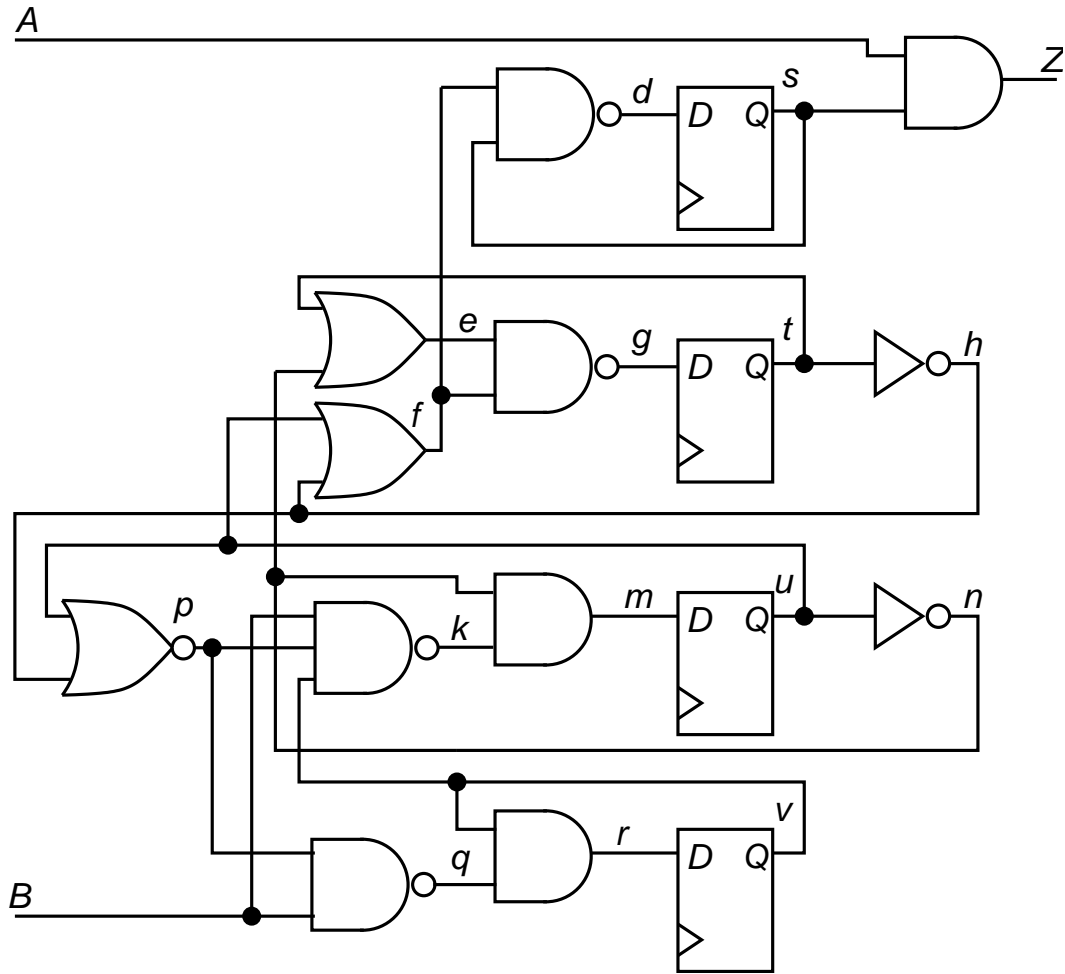

Figure 3: Circuit for Problem 14.18.
- 14.18 *Sequential ATPG for partial-scan*. Use a sequential ATPG program to generate tests for the circuit of Figure 3. Determine which fault sites are untestable from the ATPG program and scan the flip-flop(s) closest to the untestable fault sites. Rerun the ATPG program. Iterate until you get 100% fault coverage. Report the scan hardware overhead and the number of DFT iterations required to make the circuit testable.